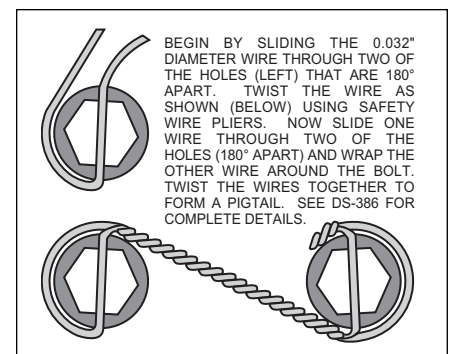

Figure 3. Safety Wire Diagram
- With the larger I.D. side of the rotor (5) facing away from the hat (6), bolt rotor (5) to hat (6) through the backside of the rotor using washers (7) and bolts (8). Torque bolts (8) in an alternating sequence to 180 **in-lb**. Safety wire bolts (8) using standard 0.032 inch diameter stainless steel safety wire as shown in Figure 3. Please refer to Wilwood's data sheet DS-386 (available at [www.wilwood.org/ds386.pdf](http://www.wilwood.org/ds386.pdf)) for complete safety wire installation instructions. Slide the rotor/hat assembly onto the spindle. Check to be sure the hat seats squarely against the hub. Install a couple of lug nuts (finger tighten) to keep the rotor/hat assembly in place while continuing with the installation.
- Install two spacers (10) and one shim washer (11) over each pre-installed stud (12) on the radial mount bracket (1). Slide the caliper (9) in place over the studs and rotors and install the washer (13) and lock nut (14) to hold the caliper in place. The caliper bleed screws should be pointing up. Snug the lock nuts (14) and check that the rotor (5) is centered in the caliper (9). Add or subtract .029" shims (4) as necessary between the caliper mounting bracket (1) and the spindle to center the caliper (9).
- Remove the two caliper center bridge pad retainer bolts, nuts, and tubes from the caliper. Slide the brake pads (15) into place. They should install easily without interference. Check that the outside radius of the brake pad is aligned with the outside diameter radius of the rotor face. Add or subtract shims (11) between the caliper and mount bracket to gain the proper alignment. Reinstall the center bridge pad retainer tubes, bolts, and locknuts. The locknut should be snug without play in the bolt or tube. Be cautious not to over tighten.
- Once all clearances have been checked, remove the wheel, caliper, hat, and rotor from the spindle and hub. Secure the caliper mounting bracket (1) to the spindle with bolts (2) using red *Loctite*® 271. Torque the bolts to 90 ± 5 ft-lb. Reinstall the hat and rotor assembly and again use lug nuts to hold it in place. Reinstall the caliper and torque the caliper nuts (14) to 47 ft-lb.